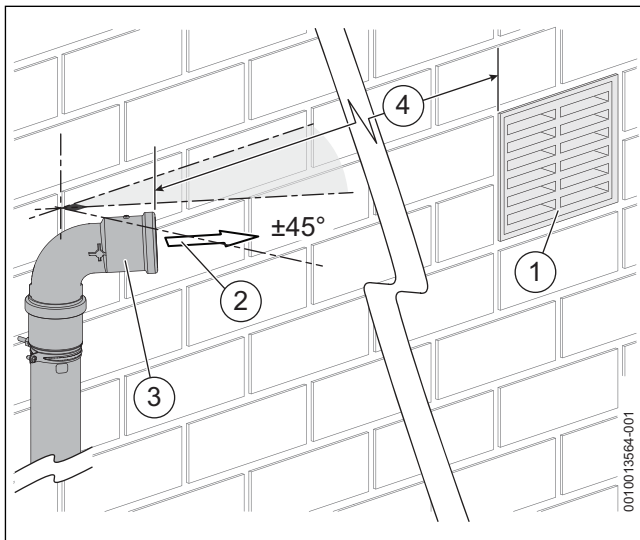

Fig. 47 Plume direction conditions
- The Plume terminal outlet position must follow the conditions stated in figure 47. When redirecting the flue discharge the outlet must be at least 1,500mm from and angle at least 45° away from any opening in the direction of the discharge, as shown. This is to prevent combustion products from entering the building.